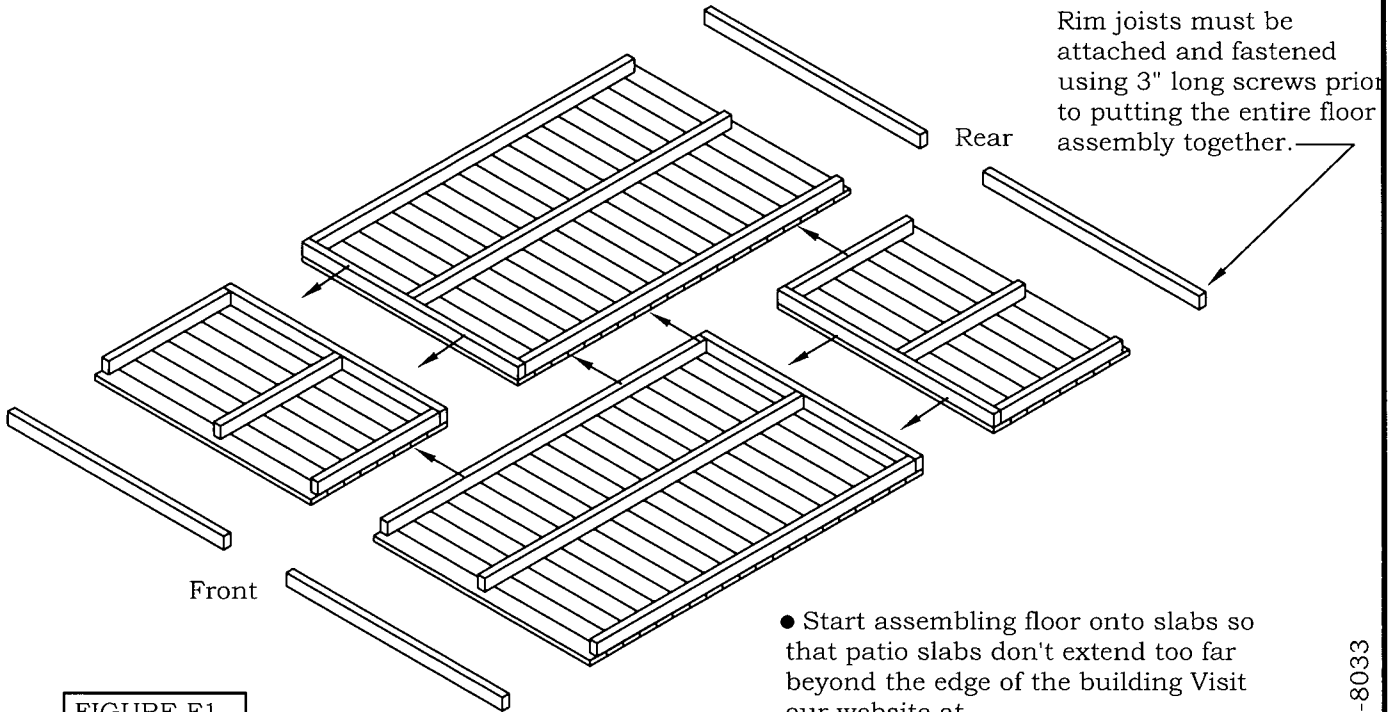

FIGURE F1
- Unpack the floor sections and place them on level ground with decking facing down as shown in Figure F1. Push the floor panels together.
- Unpack the floor sections and place them on level ground with decking facing down as shown in Figure F1.